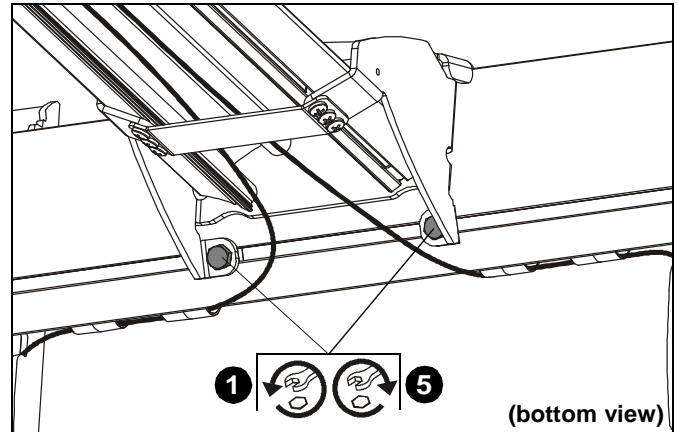

Figure 65
- Loosen two 1/4-20 x 5/8" hex head cap screws on underside of mounting bracket. (See Figure 65)
- Tighten two 1/4-20 x 5/8" screws (E) on underside of mounting bracket. (See Figure 65)